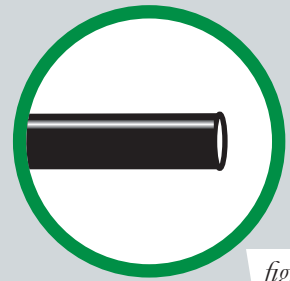

fig. 21
When cutting air lines, use a sharp knife or a hose cutter and make clean, square cuts (Fig. 21). Do not use scissors or wire cutters because these tools may deform the air line, causing it to leak around fittings. Do not cut the lines at an angle.
- a. Check the air line connection by deflating the spring and removing the line by pulling the collar against the fitting and pulling firmly on the air line. Trim 1" off the end of the air line. Be sure the cut is clean and square (see Fig. 21). Reinsert the air line into the push-to-connect fitting.
If the vehicle’s headlights are shining into the trees or the vehicle is leaning to one side, then it is not level (Fig. 21). Raise the air pressure to correct either of these problems and level the vehicle.